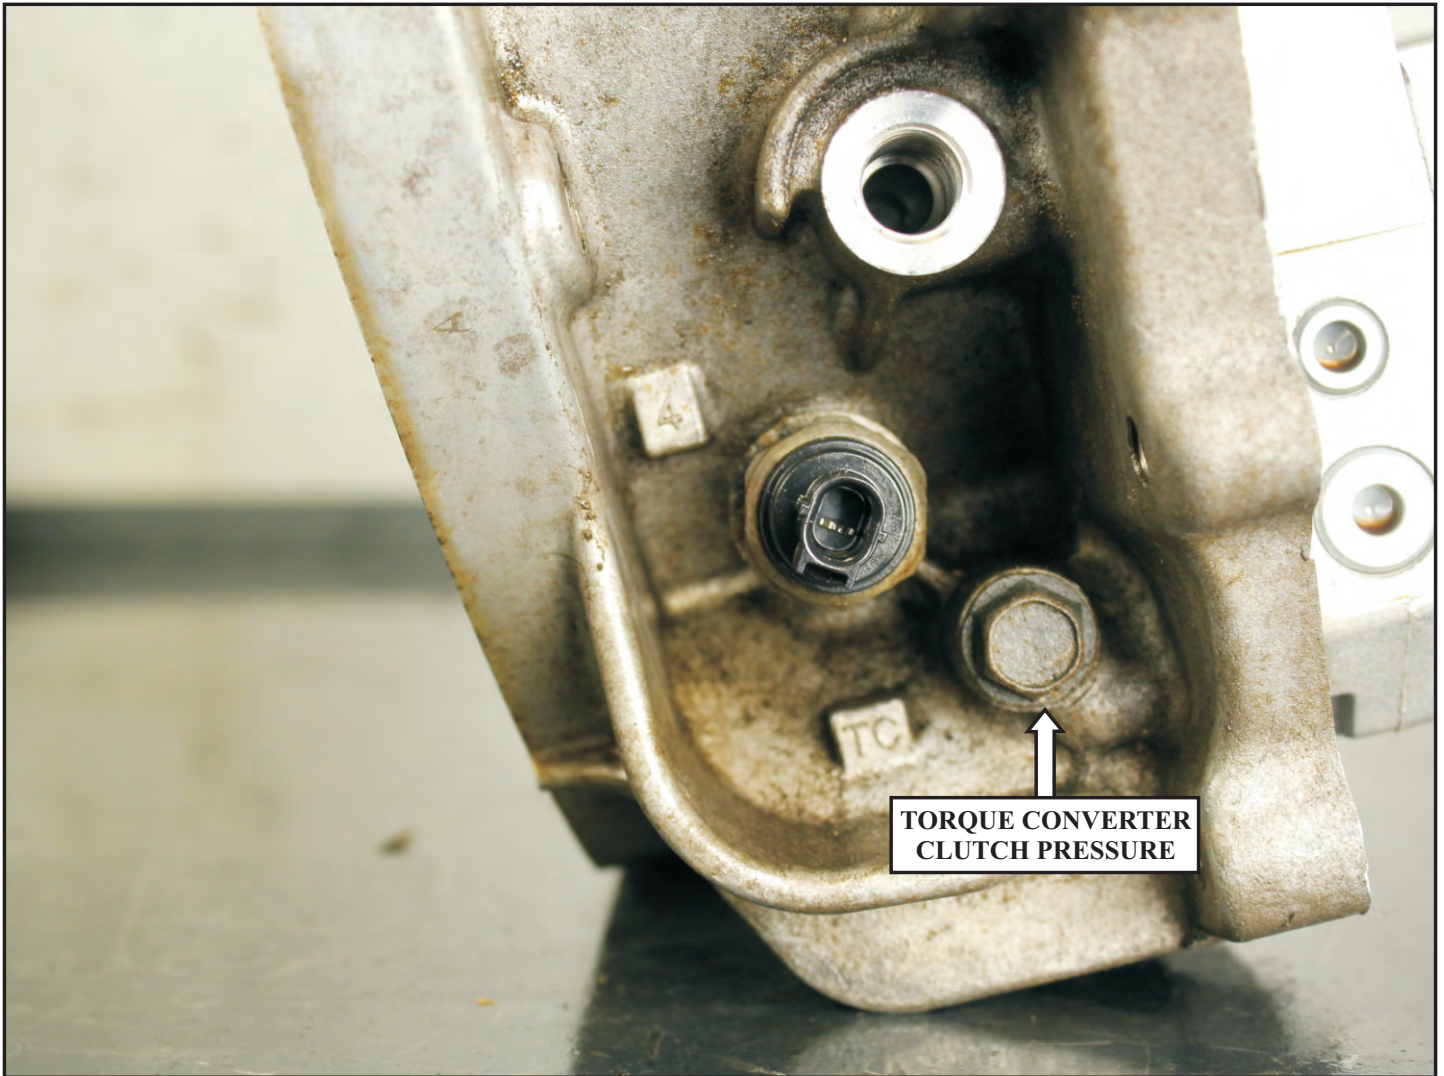

Figure 4
1. Install the pressure gauge into the service port marked "TC" as seen in figure 4.